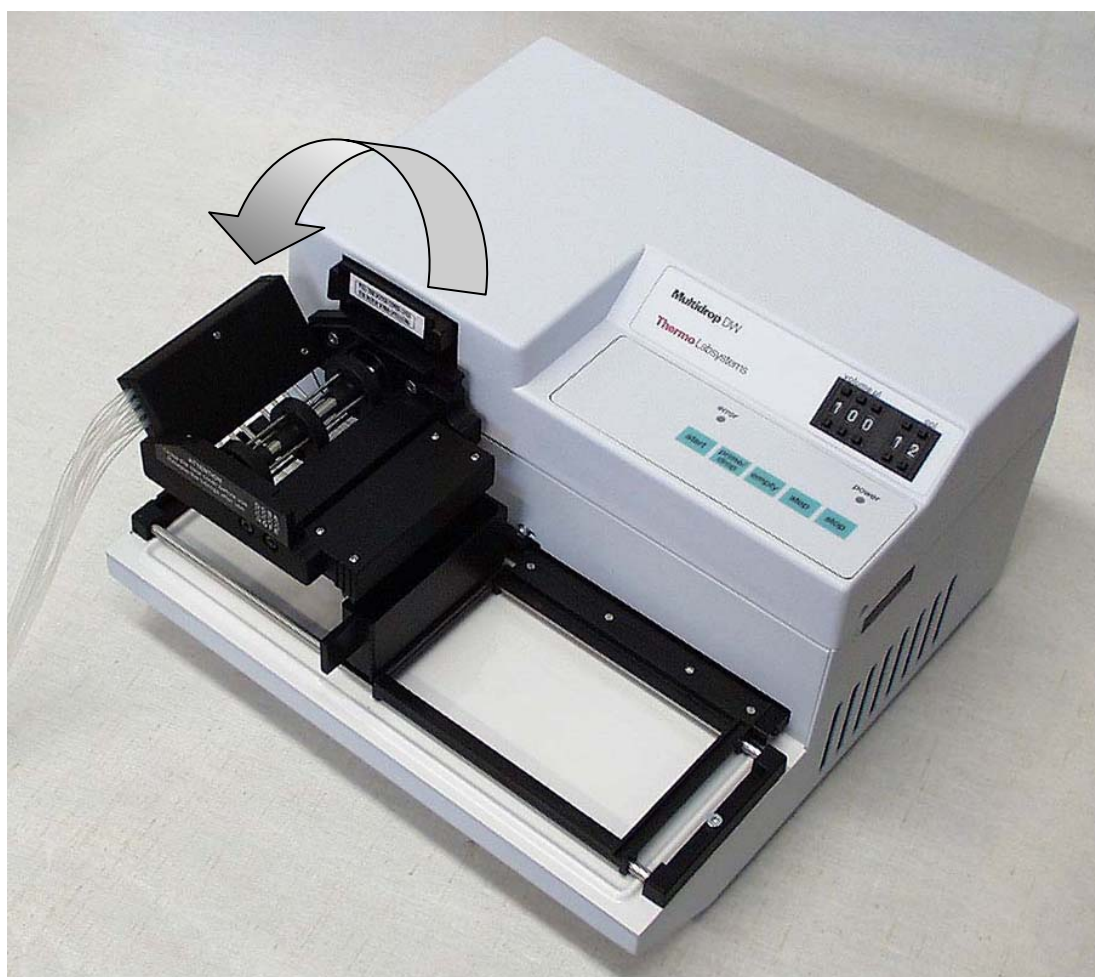

Fig. 6.24 Rest position of the dispensing cassette
If there is only a short break in dispensing, no washing or cleaning of the tubes is necessary. However, after pressing the **empty** key, release the tubing tension by pulling the upper part of the cassette from its slots and place it into its rest position slots located on the left-hand side of the rotor (*Fig. 6.24*).
After washing, store the dispensing cassette in the rest position (*Fig. 6.24*).
Note: Keep the dispensing cassette in the rest position (*Fig. 6.24*) when the dispensing cassette is not in use.
If the instrument is not used for a couple of hours, insert the dispensing cassette into the rest position (*Fig. 6.24*). Refer to Section 6.8.4 After use. Handle the dispensing cassette with great care so that you do not damage the tubes and dispensing tips. These factors will affect the useful life of the dispensing cassette.
2. Install the dispensing cassette into the Multidrop DW if it is not already installed. Place the dispensing cassette into the rest position (*Fig. 6.24*). Refer to Section 6.3 How to insert the dispensing cassette and the priming vessel.